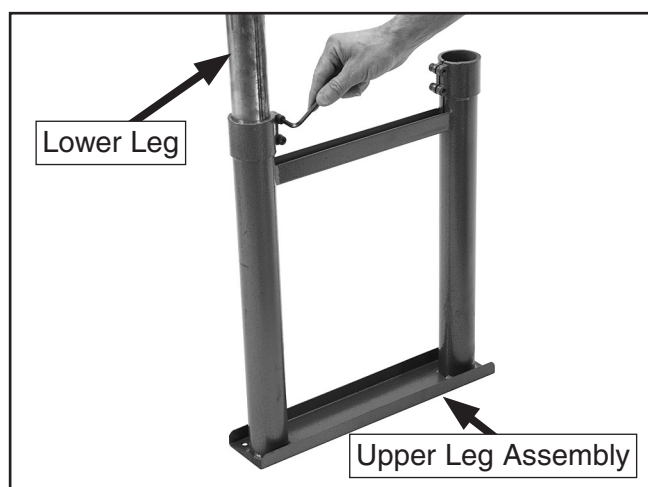

Figure 12. Lower leg attachment.
1. Insert one lower leg into the upper leg assembly, as shown in **Figure 12**. Tighten one of the cap screws to temporarily hold the leg in place. Repeat for the other seven legs.